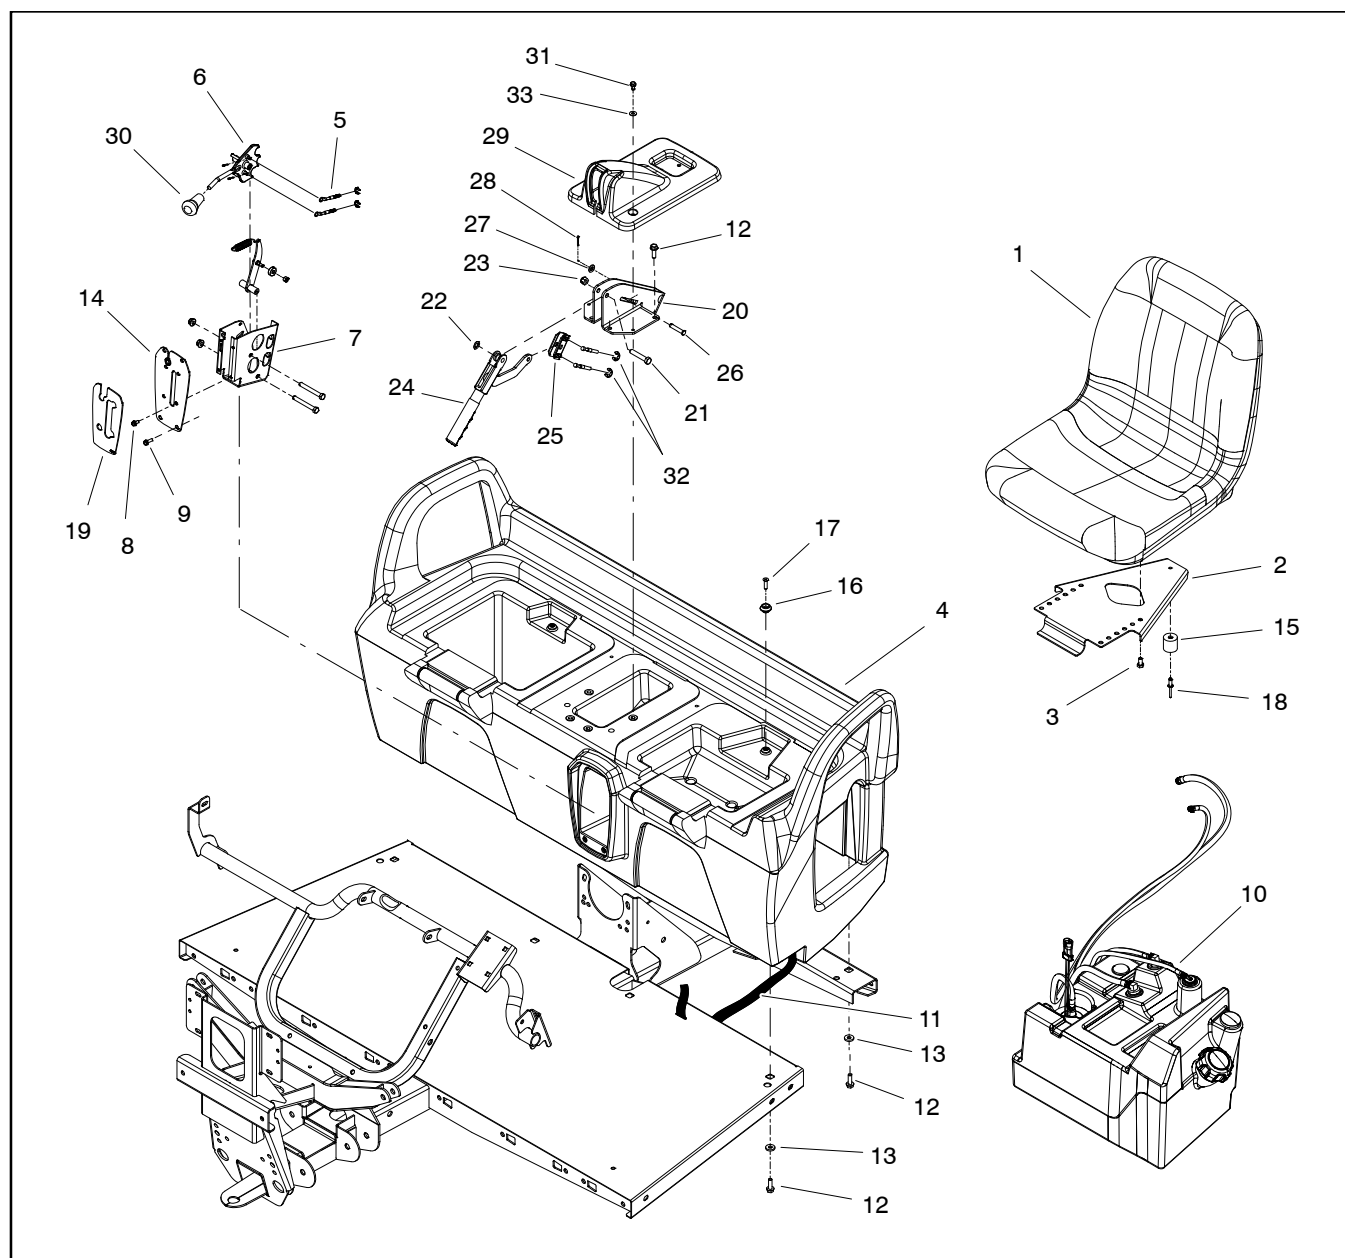
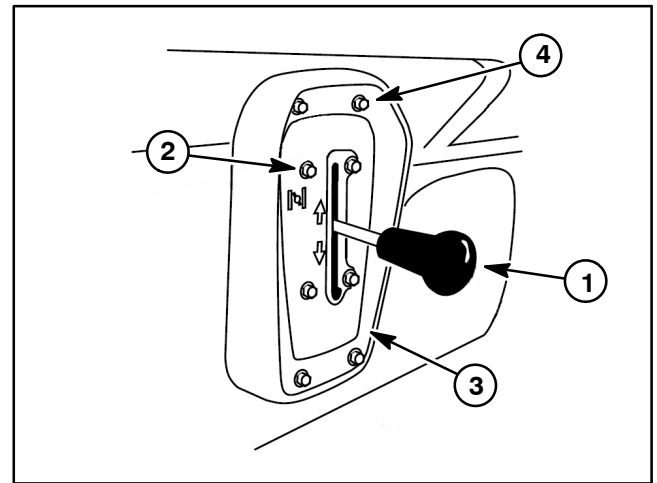

Figure 38
Figure 39
Seat Base Removal (Fig. 38)
4. Unscrew knob from the shift lever. Remove four (4) flange head screws (item 8 in Fig. 38) that secure the shift plate to the shift bracket (Fig. 39).
5. Remove four (4) flange head screws (item 9 in Fig. 38) that secure the shift plate to the seat base (Fig. 39). Separate shift bracket from the seat base.
6. Remove eight (8) flange head screws and flat washers that secure the seat base to the frame.
Seat Base Installation (Fig. 38)
2. Install eight (8) flange head screws and flat washers through the frame and into the seat base. Tighten screws from the middle of the vehicle to the outside.
4. Position shift plate to shift bracket making sure to capture cable flange. Secure shift plate to shift bracket with four (4) flange head screws (item 8 in Fig. 38). Screw knob onto the shift lever (Fig. 39).
5. Position shift plate with shift bracket to the seat base. Secure shift plate to seat base with four (4) flange head screws (item 9 in Fig. 38) (Fig. 39).